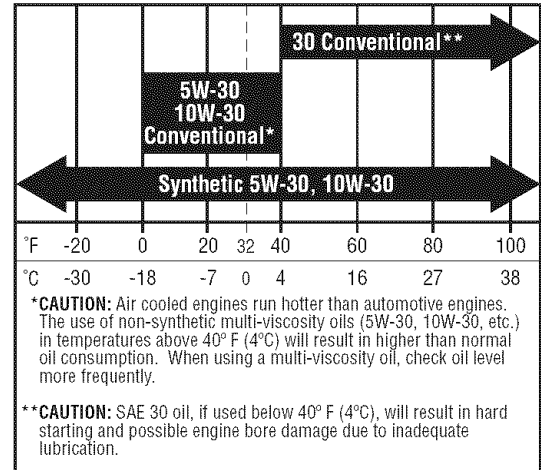
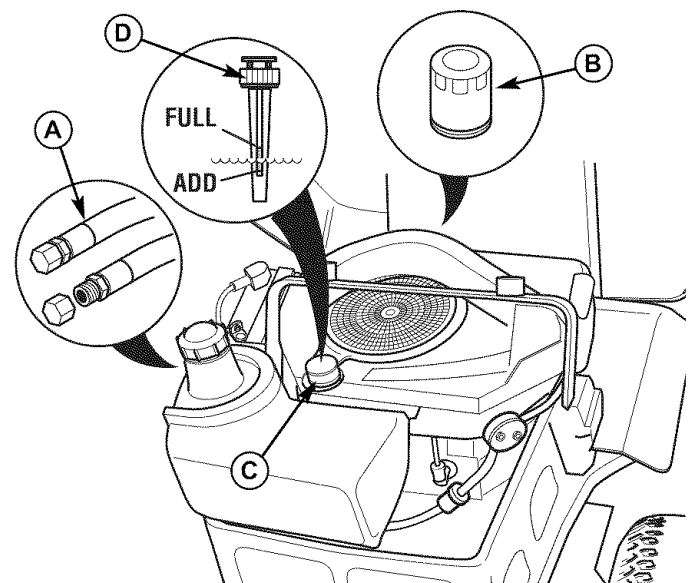
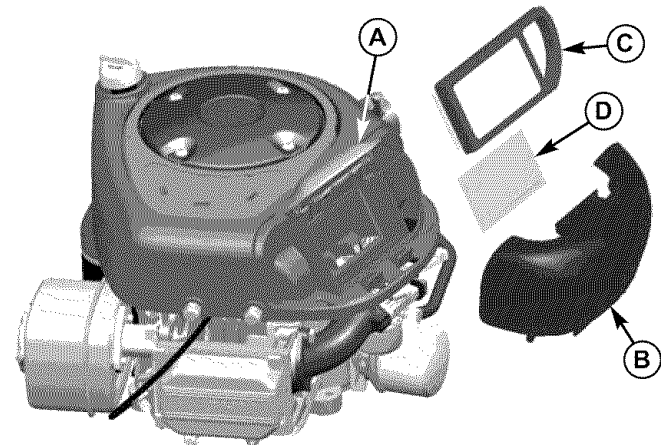

Figure 26. Recommended Engine Oil - Briggs & Stratton Models
Figure 27. Oil Change - Briggs & Stratton Models
Figure 29. Air Filter Service - Briggs & Stratton Single Cylinder Models
2. Clean the area around the dip stick (C, Figure 27).
3. Remove the dip stick (C) and clean it with a paper towel.
4. Insert the dip stick back into the engine. Thread the cap back onto the tube (D).
5. Remove the dip stick and read the oil level. The oil level should be between the "FULL" and "ADD" marks (D). If not, add oil according to the oil recommendations chart (Figure 26).
1. Clean the area around the dip stick (C, Figure 27) and oil drain tube (A).
2. Remove the oil drain plug (A) from the end of the oil drain tube. Remove the dip stick (C). Allow ample time for complete drainage.
3. Reinstall the oil drain plug (A) and route the hose next to the engine.
1. Clean the area around the dip stick (C, Figure 27) and oil drain (A).
2. Remove the oil drain plug (A) and dip stick (C). Allow ample time for complete drainage.
3. Remove the oil filter (B). Discard the filter.
2. Remove the cover (B). Remove the filter (C, Figure 27) and pre-cleaner (D).
3. Install the pre-cleaner (D) with the mesh side up. Install the filter (C) as shown.
4. Install the cover (B, Figure 29) making sure the tabs are inserted into their slots. Secure with the latch (A).